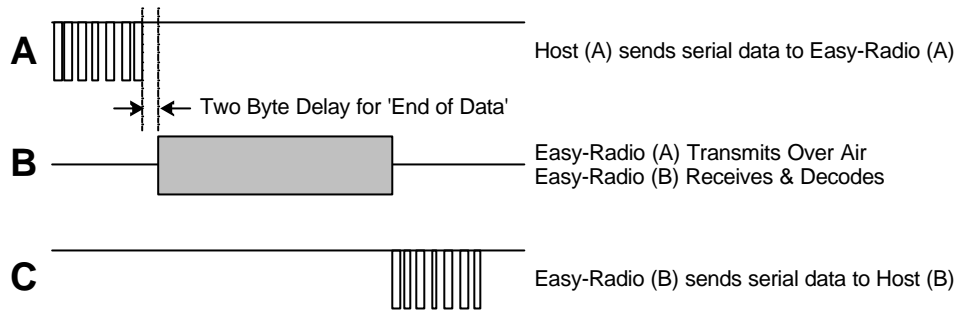

Figure 3 Serial Data
The Host (A) should provide the serial data input (up to 128 characters per packet) to the Easy-Radio transmitter. The data should be sent in 'bursts' therefore allowing adequate time for transmission and reception over the RF link (See Figure 3). The receiver, upon reception and decoding of the RF transmission immediately sends serial data to the Host B.